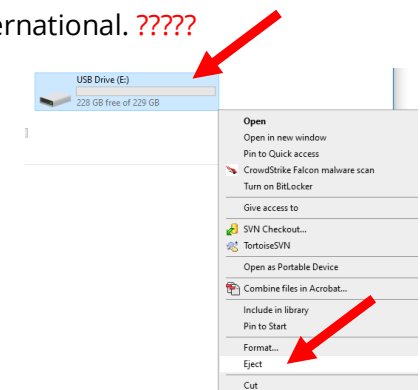

Figure 4
7. Go to Explorer (My Computer). Right click on the USB drive. Click Eject (see Figure 4).